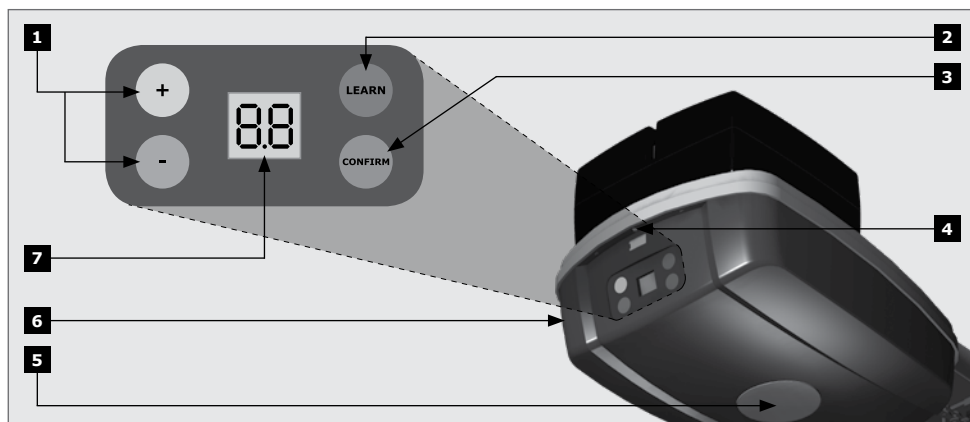

FIGURE 85
- The output terminals can be accessed by removing the screw above the control panel, and hinging down the power head cover (Item 4 - Figure 85).